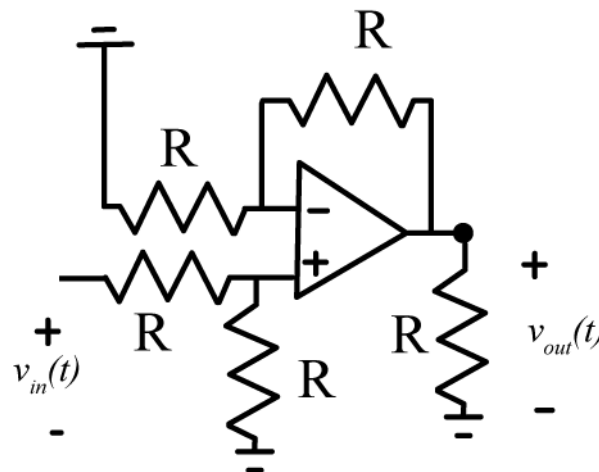

Figure 3. Differential amplifier circuit.
2) Build the differential amplifier, shown in Figure 3. Note that at this point we have connected the feedback input to ground. Again, we have included a load resistor to measure the output for debugging purposes. You should use a single chip for this (and waste an op amp) so your circuit will be easier to debug. Do not connect this to the prefilter circuit yet, but you should put this close to your prefilter so you will have room on your board for the rest of the circuit. Connect the signal generator to the input of this circuit and measure the output. They should be equal, if they are not you need to check your wiring.